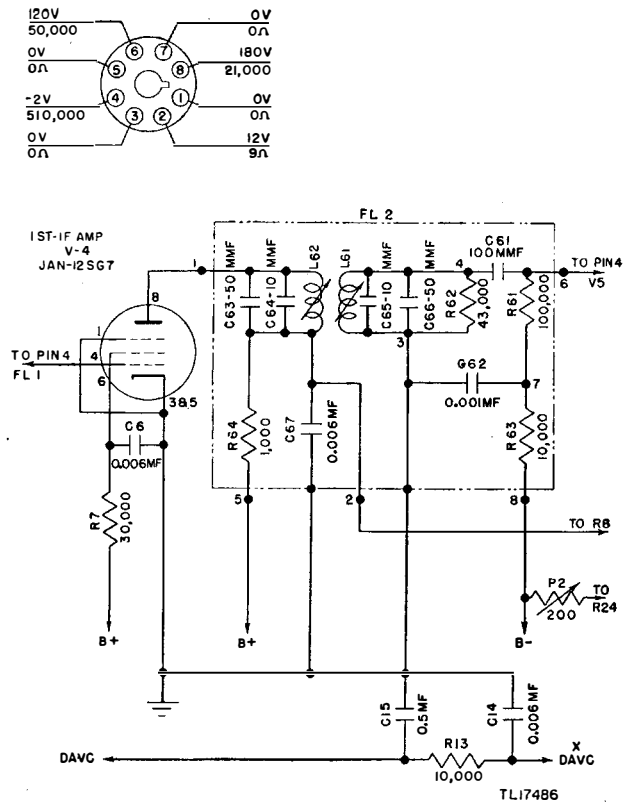

Figure 28. Radio Receiver BC-603-(*), first intermediate-frequency amplifier V4—schematic diagram.
35. Parts List for First I-f Amplifier, V4 (fig. 28)